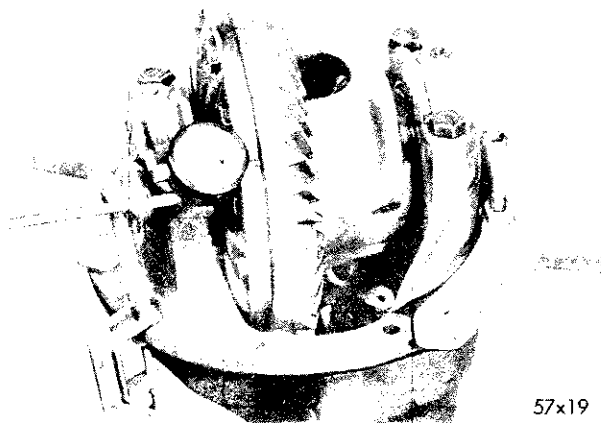
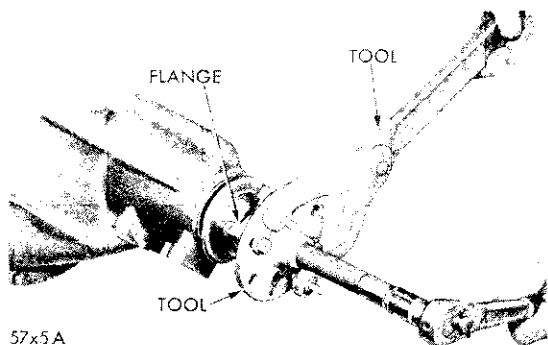

Fig. 8—Checking Drive Gear Runout
Fig. 9—Removing or Installing Companion Flange
- (1) Mount differential in stand Tool DD-1014 and attach the dial indicator Tool C-3339 to the differential carrier flange so the pointer of indicator squarely contacts the back face of ring gear (Fig. 8). Make certain there is no end play in the differential side bearings. If end play is evident, remove the adjuster lock and slightly loosen the bearing cap on the gear tooth side. Tighten the adjuster sufficiently to eliminate end play.
- (2) Rotate ring gear several complete revolutions while noting the total indicator reading. This reading must not exceed .005 inch runout. If indicator reading exceeds the .005 inch runout, it will be necessary to check runout of differential case mounting flange (see Paragraph 12B [3]).
- (3) With companion flange up, hold the flange with holding Tool C-3281 and remove the pinion shaft nut and convex washer.
- (4) Install the companion flange puller Tool C-452 and remove the flange (Fig. 9).